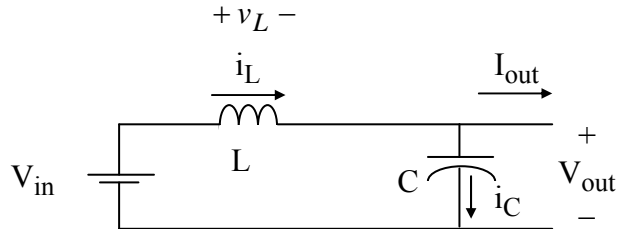
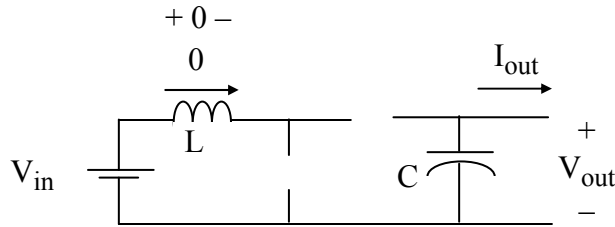

Figure 2b. Switch Open for  $(1-D)T$  Seconds (Continuous Conduction)
Figure 6. Third State for Discontinuous Conduction
At low load, the converter may slip into the discontinuous conduction mode. Referring back to Figure 2b, this occurs when the inductor current coasts to zero. At that moment, the capacitor attempts to reverse  $i_L$  and “backfeed” the inductor, but the diode prevents current reversal. Thus, the diode opens, and the circuit assumes the topology shown in Figure 6 until the switch closes again. During this third state, all load power is provided by the capacitor.
Referring to Figure 2b, when the MOSFET is open, it is subjected to  $V_{out}$ . Because of the usual double-voltage switching transients, the MOSFET should therefore be rated  $2V_{out}$ .
2. Modify the MOSFET D-control circuit according to the MOSFET Firing Circuit document for Boost Converter Operation. Check your range of D with the expected D range given in Figure 2b in that document.